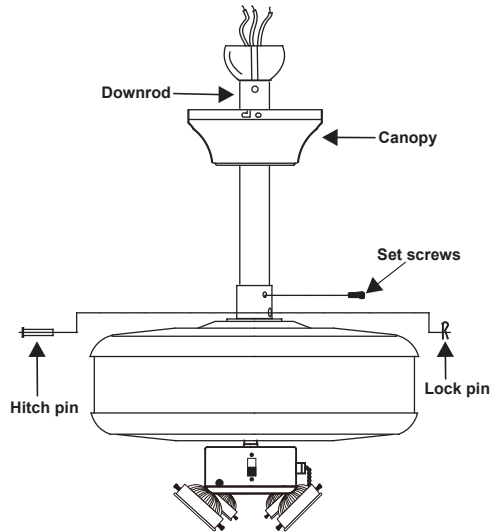

Fig.6
Step 4. Route wires exiting from the top of the fan motor through the canopy and then through the ball/downrod. (Fig.6)
Step 5. Align the holes at the bottom of the downrod with the holes in the collar on top of the motor housing. Carefully insert the hitch pin through the holes in the collar and downrod. Be careful not to jam the pin against the wiring inside the downrod. Insert the locking pin through the hole near the end of the hitch pin until it snaps into its locked position. (Fig.6)